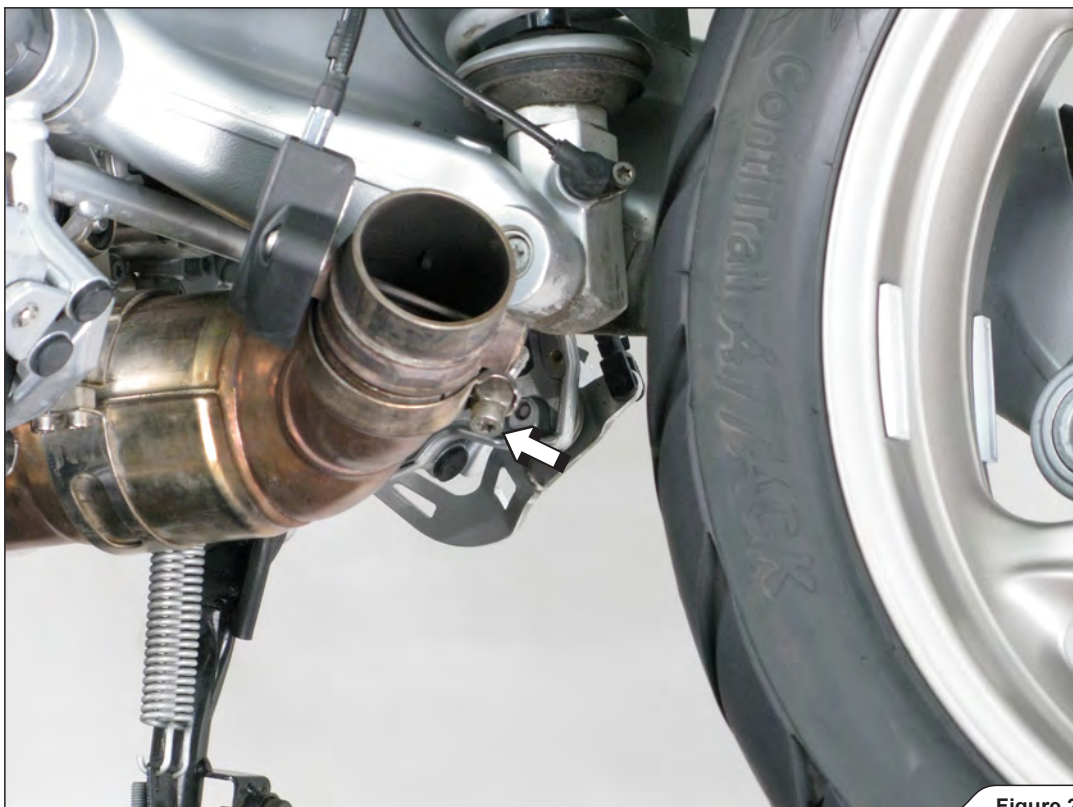

Figure 2
3. Unscrew the exhaust valves' clamp and partially remove the exhaust valve with exhaust valve cable (**Figure 2**).